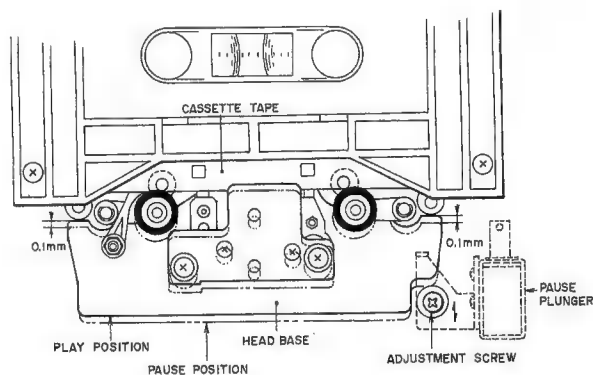

Fig. 7
4. PAUSE PLUNGER INSTALLATION POSITION ADJUSTMENT (Refer to Fig. 7)
With the tape loaded, the Pause Plunger Solenoid is not completely pulled if the head base does not lower at all when the mode is changed from PLAY to PAUSE. In order to allow Pause Plunger to function completely and still have the head not lowered too much, the head base should lower only 0.1 mm (lower only slightly) when the mode is changed from PLAY to PAUSE as shown in Fig. 7.